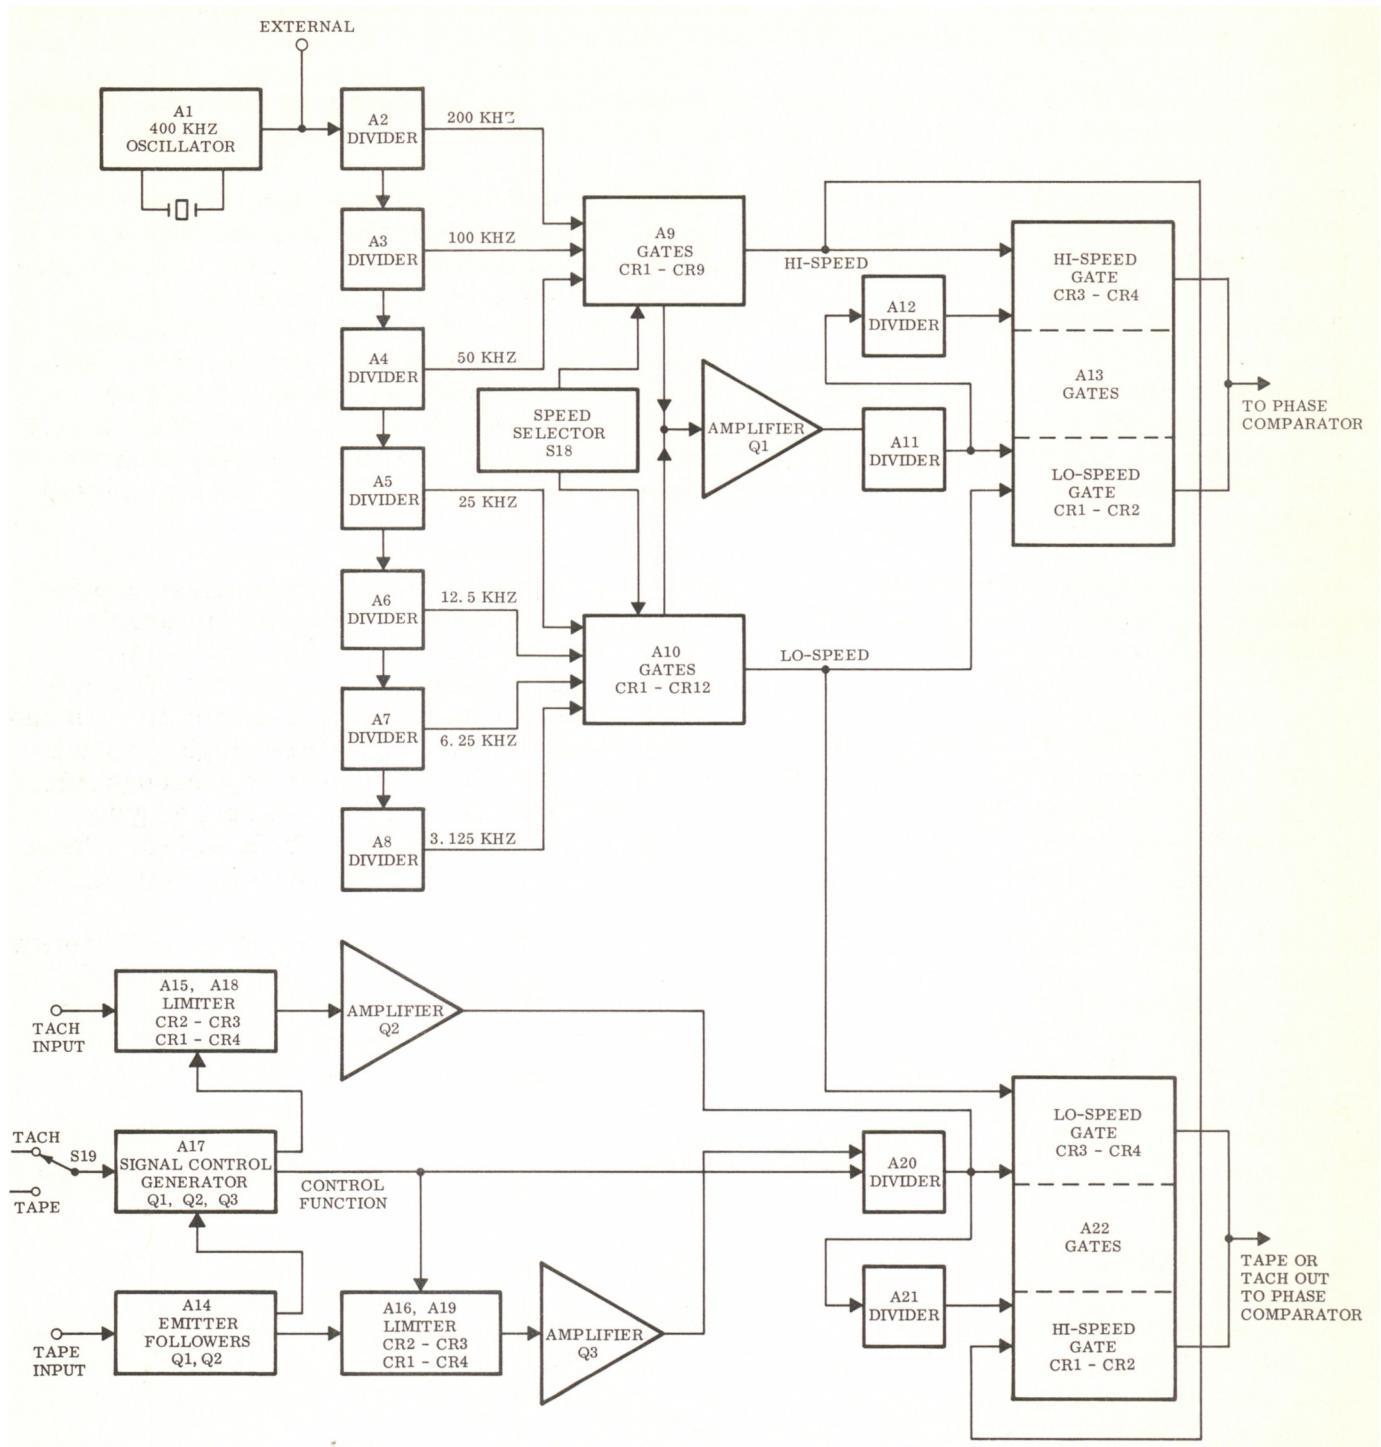

Figure 4.2-6. Frequency Divider
4.2-21 FREQUENCY DIVIDER (Schematic Number 1212287). The frequency divider card (see block diagram, Figure 4.2-6) supplies standard reference frequencies to the phase comparator and to the control track (if used) record channel. It also amplifies either the capstan tachometer or control track output prior to being fed to the phase comparator. The basic frequency, before division, is 400 kHz. It can be obtained from the oscillator on the frequency divider card, an external source, or VFO (optional).